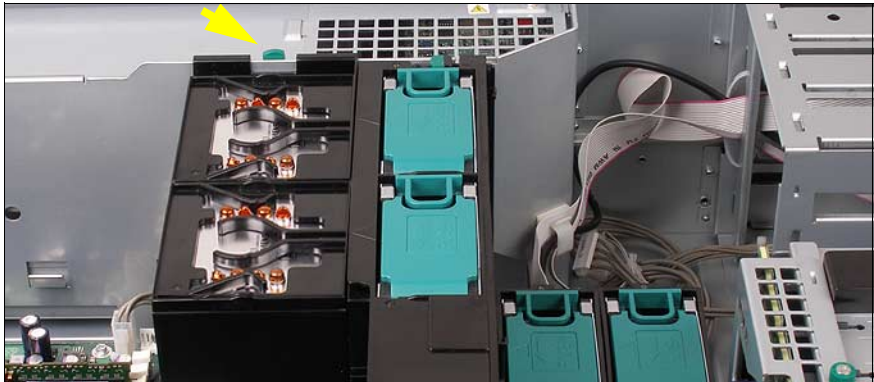

Figure 27: Installing the heat sink holder
- ▶ Reinstall the heat sink holder (see figure 27 on page 40).